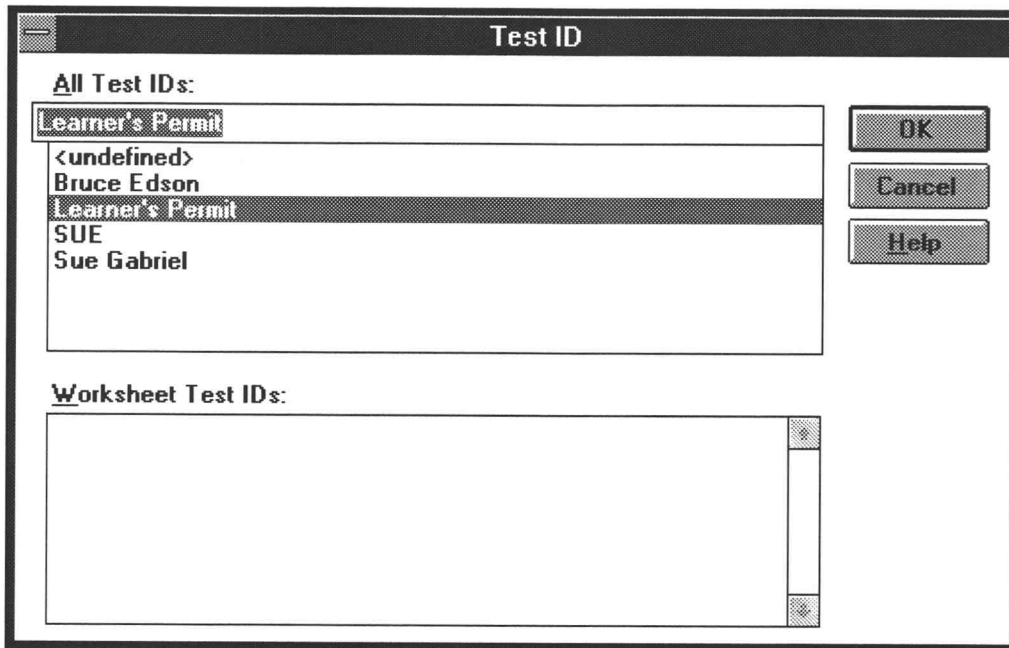

Figure 4-12. The initial display of the Test ID dialog box.
1. From the Configure Menu, select Test ID or choose the Test ID command button from the Button Bar. This displays the Test ID dialog box, as shown in Figure 4-12.